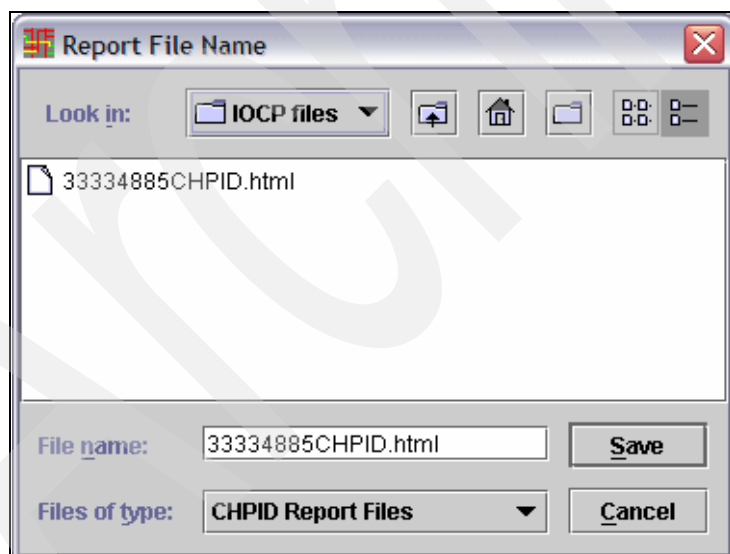

Figure 4-65 CMT - Report File Name
2. Enter the Report File Name (or accept the default name offered by the CMT) and click **Save** (Figure 4-65).